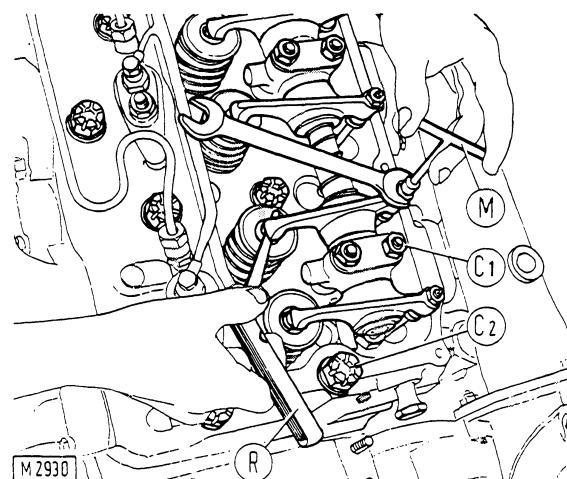

Fig. 26 - Checking and adjusting valve lash.
For valve lash adjustment, use wrench 75290886 (M, fig. 26) and a suitable feeler gauge (R). The correct clearance is 0.30 mm or 0.012 in for intake valves and 0.40 mm or 0.016 in for exhaust valves.